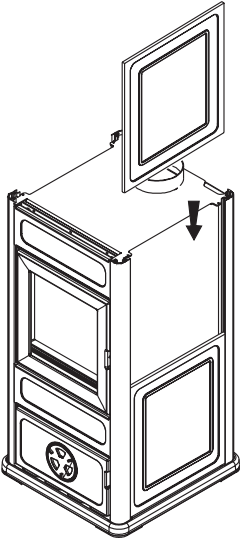

fig. 5
- introduceti placile ceramice in laterala de sus in jos (fig. 5)